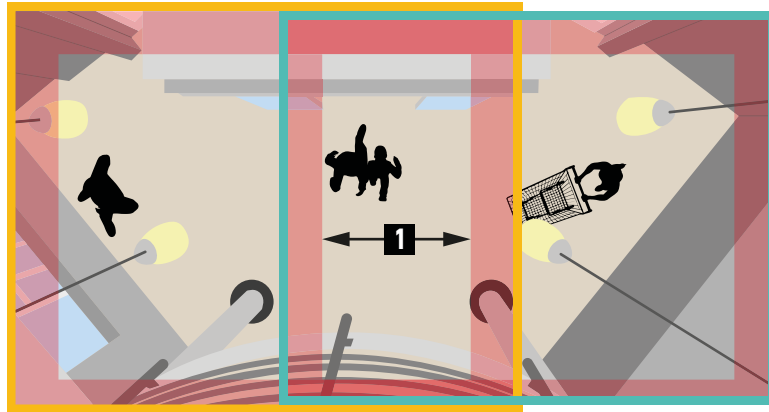

Fig. 19: Overlapping of areas
- For the selection of the installation site it is important that the monitored areas of the individual devices overlap by at least 100 cm or 3.3 ft (Fig. 19 /1).